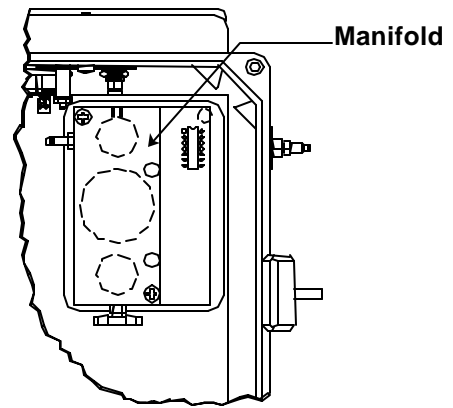

Figure 9: Manifold
- Open the display panel and remove the two manifold retention screws and remove the manifold. See **Figure 9**.